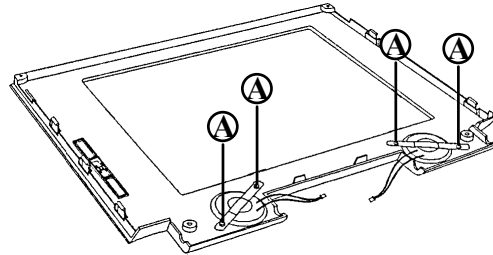

FIGURE 7-1
2. FOR EACH SPEAKER. REMOVE TWO SCREWS (FIGURE 7-1 A) AND LIFT THE SPEAKER FREE.